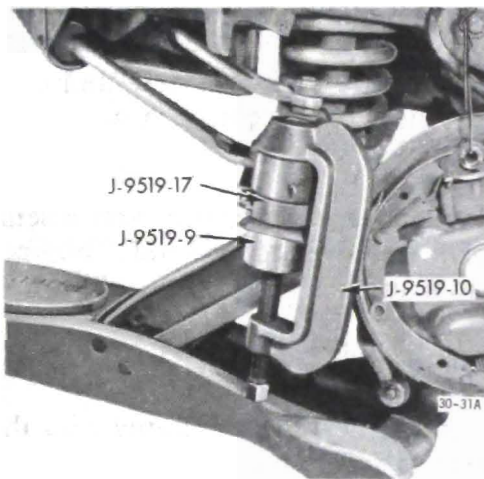

Figure 30-34 - Lower Ball Joint Installer in Place
1. Position ball joint in lower control arm and install Tool J-9519 as shown in Figure 30-34.